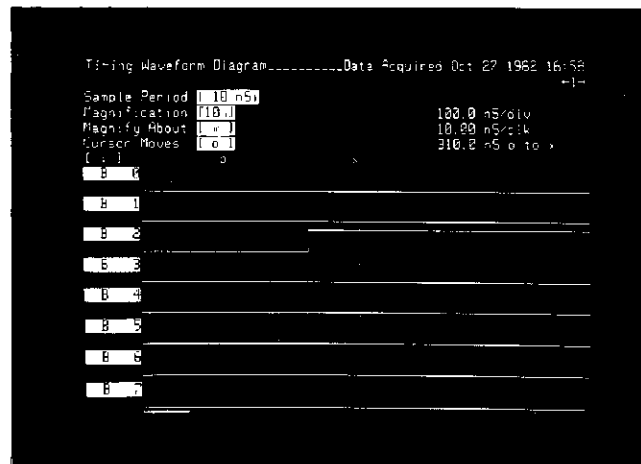

Figure 3-32. Timing Waveform Display
18. Press the RUN key. The analyzer will search through the incoming states until it finds the state trigger. When it finds the state trigger, it will begin capturing states into memory, and at the same time, it will arm the timing analyzer to search for its trigger. The timing analyzer will monitor the incoming activity until it finds a rising edge on bit B2. Then it will store a series of samples of activity to complete its timing measurement. It will show "Trace Complete" on the top of the screen, and waveforms of timing information across the display. See figure 3-32.